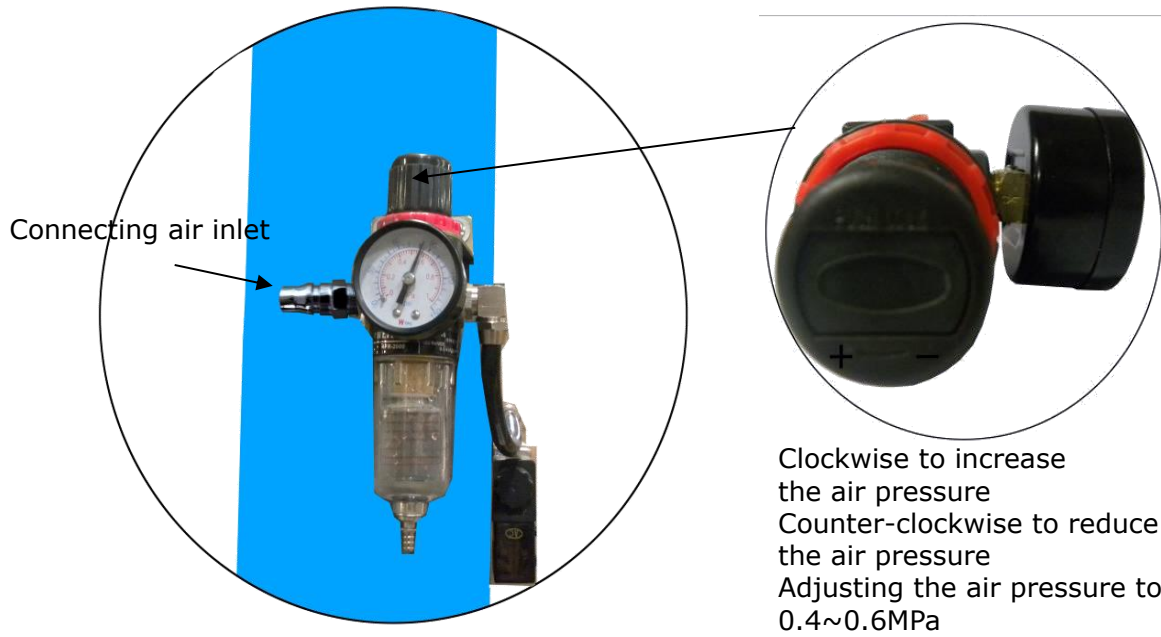

Fig. 30
6. Connecting air inlet (Air supply pressure 5 kg/cm²- 8 kg/cm²), adjusting the air pressure of Oil-water separator to 0.4 - 0.6MPa. **(See Fig. 30).**